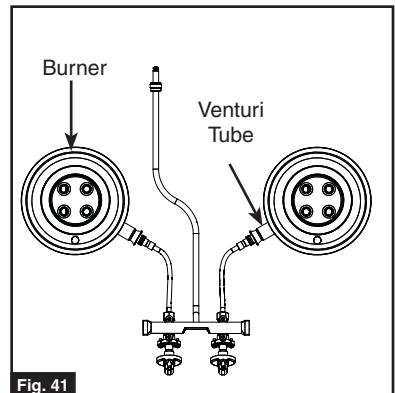

Fig. 41
- Make sure the orifice fittings are inside the venturi tubes, then tighten all self tapping screws. (Fig. 41)